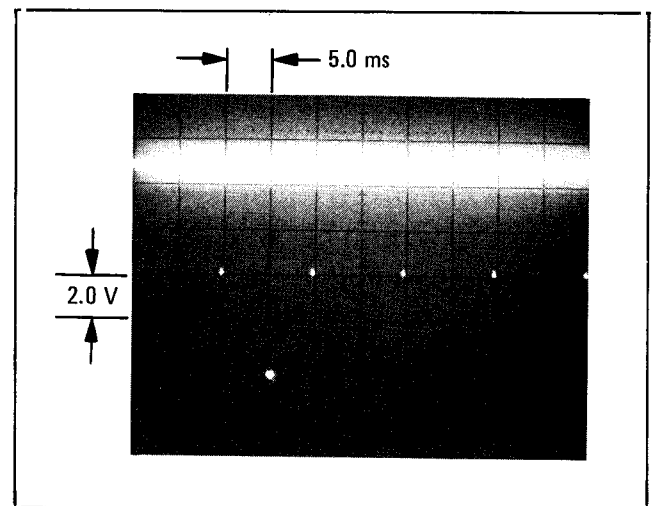

Figure 8. Oscilloscope Display of Counter 2 Output at J3-Pin 6 (with dc coupling and internal triggering)
3. View the ϕ Offset waveform at J3-Pin 6 of Triple Programmable Counter U20 (refer to Figure 8). It is a 20 μ s pulse at a 100 Hz rate for a Signal Generator output frequency of 90 MHz and a 20 μ s pulse at a 250 Hz rate for a frequency of 90.00025 MHz.